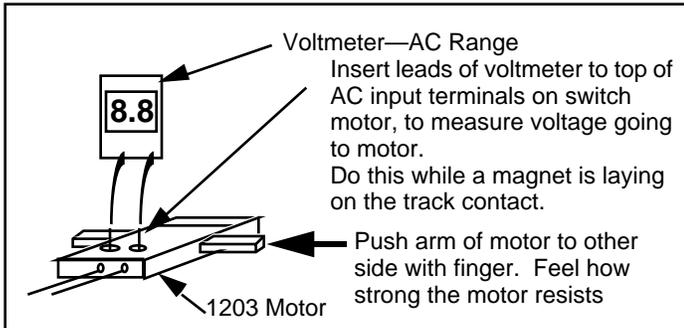

Figure 33 —Measuring Voltage Drop Across Switch Motors
- With a voltage range set to the AC range, hold the two leads of a digital voltmeter down inside the terminals of the motor, as shown in the following Figure 33.